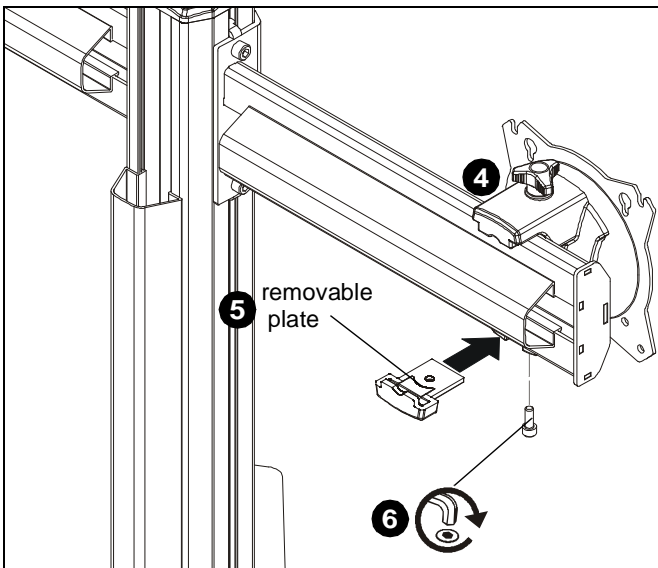

Figure 11
NOTE: Faceplate assemblies may be reattached on the fixed part of the arm. (See Figure 11)
- Place faceplate assembly on array arm at desired mounting position. (See Figure 11)
- Slide removable plate back into slot at bottom of faceplate assembly. (See Figure 11)
- Reinstall hex head bolt removed in Step 1 to secure faceplate assembly to array arm. (See Figure 11)